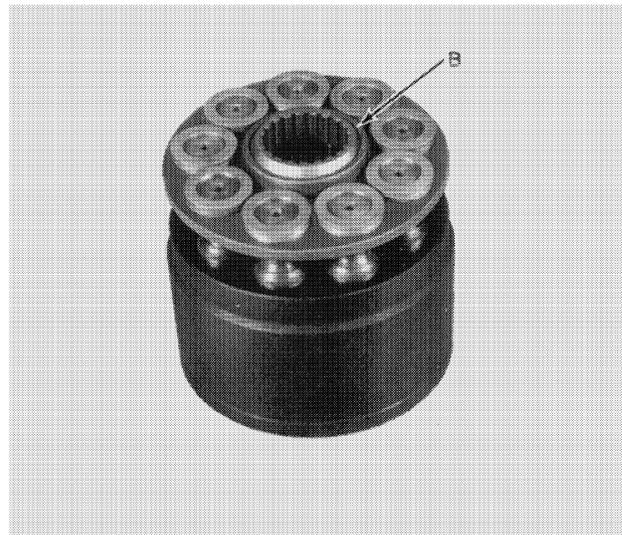

FIGURE 1-11
7. Lift the piston plate, pivot, and shoe assemblies, B, Figure 1-11, out of the rotating block. Lay these parts on cardboard to avoid damage to them.
5. Make sure the pivot and shoe assemblies are installed in the rotating block as shown in Figure 1-11.